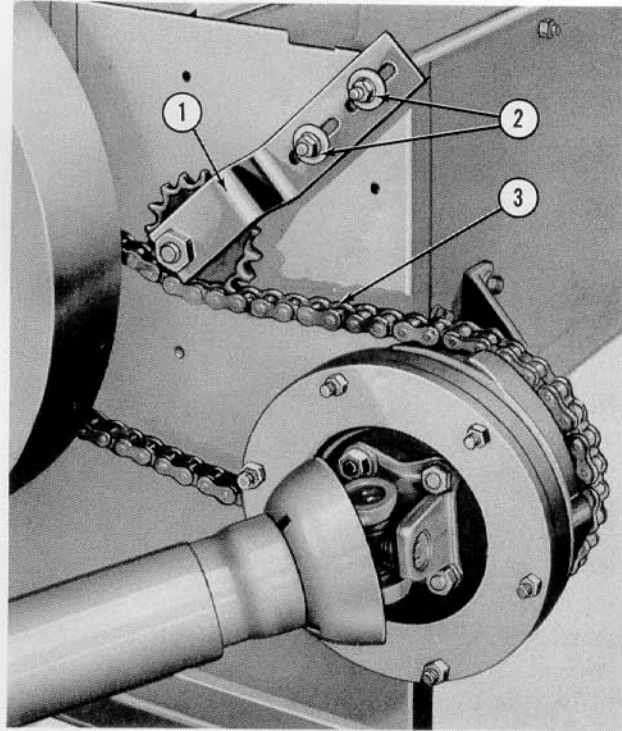

Figure 47
- Install the drive chain (3), Figure 47, around the clutch drive sprocket and the flywheel driven sprocket as shown.
- Attach the chain tightener (1), Figure 47, to the baler with the two $\frac{3}{8}$ " x $1\frac{1}{8}$ " step bolts, flat washers, lockwashers and hex nuts (2). Adjust the tightener for proper chain tension as outlined under ADJUSTMENTS.